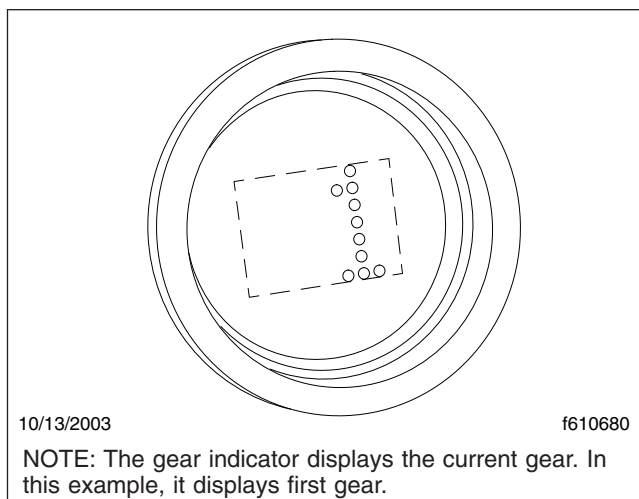

Fig. 14.5, Current Gear Display
In either mode, the gear indicator displays the current gear. See Fig. 14.5.
Drive (D) is directly below N on the four-position selector switch located at the end of the SmartShift control lever. To select D, press in the neutral lock button and move the selector switch to the position below N. When drive is selected, the number of the currently selected forward gear displays on the gear indicator. See Fig. 14.5.